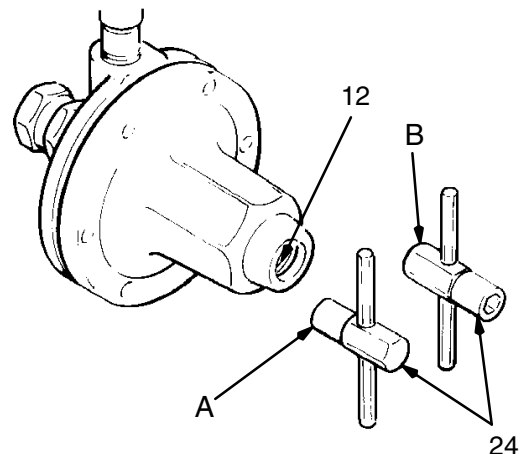

Fig. 3
- a. *Spring Operated Regulators Only (see Fig. 3).* The regulator can be fully opened in two ways:
- Using the male end (B) of the regulator key (24), turn the socket-head adjustment screw (19) fully *counterclockwise*. The pressure setting will be retained.
- Using the female end (A) of the regulator key (24), turn the adjustment screw (12) fully *clockwise*. You will have to reset pressure after flushing.
- a. *Spring Operated Regulators Only (see Fig. 3).* The regulator can be adjusted in two ways:
- Using the male end (B) of the regulator key (24), turn the socket-head adjustment screw (12) fully *clockwise*. Verify that the pressure setting has not changed.
- Using the female end (A) of the regulator key (24), turn the adjustment screw (12) *counterclockwise* to return to the desired pressure setting.
1. Close the regulator: engage the female end (A) of the key (24) with the adjusting screw (12) and turn it counterclockwise to relieve the spring tension. See Fig. 3.
3. Turn the key (24) *clockwise* to increase fluid pressure. See Fig. 3. Adjust for the desired spray pattern.